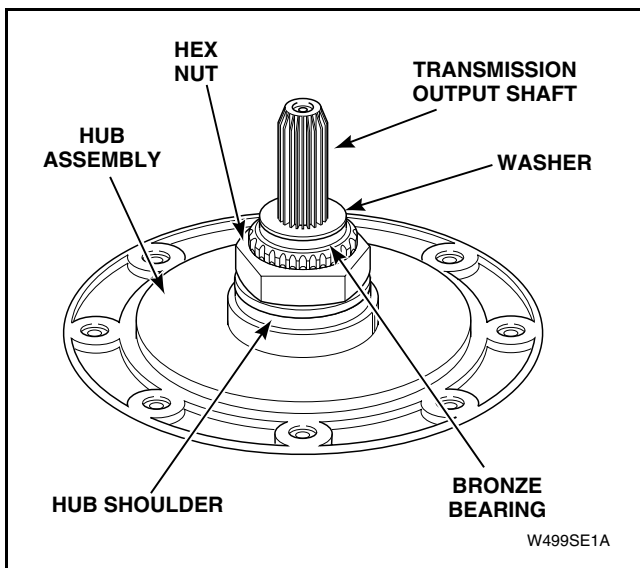

Figure 33
- m. Thoroughly clean all foreign material from seal mounting area of hub assembly, bronze bearing and washer. Refer to *Figure 33*.